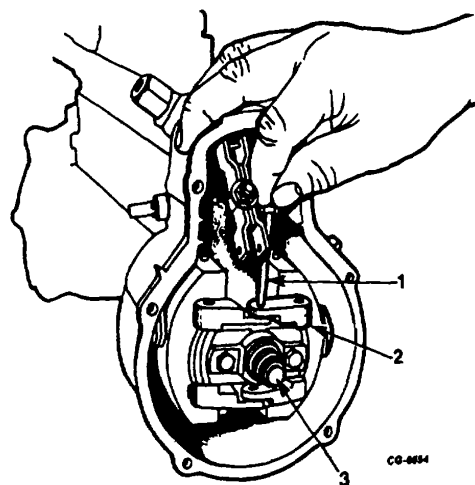

Figure 10. Removing Adjusting Pin from Flyweight Assembly
10. Raise tabs on lock washer and remove double nutted thru-bolt and adjusting pin from governor flyweight assembly (Figure 10).